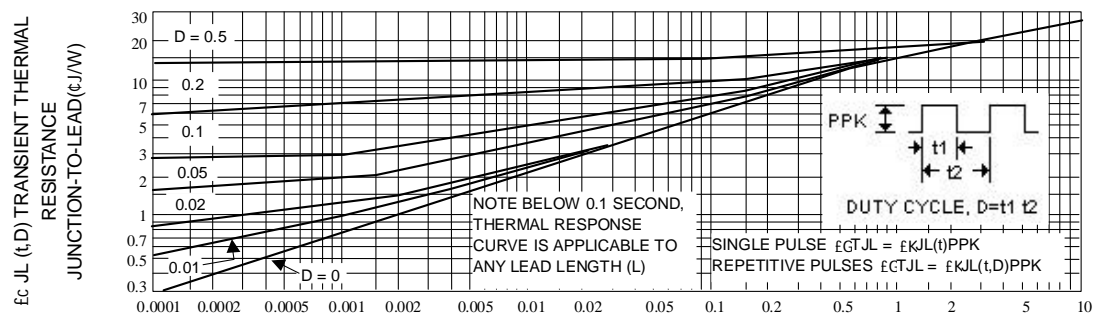
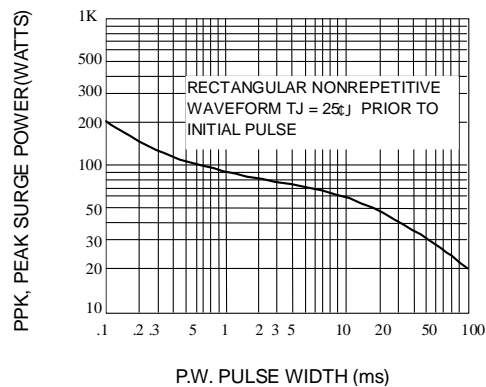
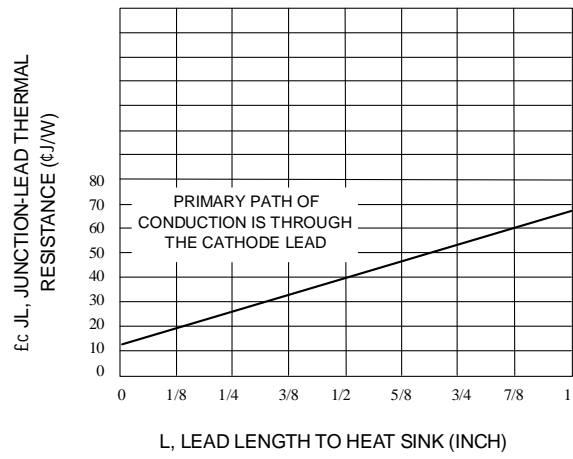

Fig. 2-TYPICAL THERMAL RESPONSE L,
Fig. 3-MAXIMUM SURGE POWER
Fig. 10-TYPICAL THERMAL RESISTANCE
4. SURGE CURRENT (I_R) NON-REPETITIVE - The rating listed in the electrical characteristics table is maximum peak, non-repetitive, reverse surge current of 1/2 square wave or equivalent sine wave pulse of 1/120 second duration superimposed on the test current, I_{ZT} , per JEDEC standards, however, actual device capability is as described in Figure 3.
θ_{JT} is the increase in junction temperature above the lead temperature and may be found from Figure 2 for a train of power pulses or from Figure 10 for dc power.
Data of Figure 2 should not be used to compute surge capability. Surge limitations are given in Figure 3. They are lower than would be expected by considering only junction temperature, as current crowding effects cause temperatures to be extremely high in small spots resulting in device degradation should the limits of Figure 3 be exceeded.